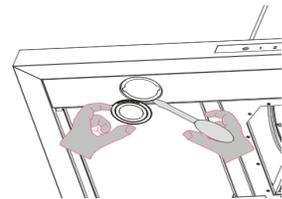

Fig. 9.1
- Push out the light assembly using a small straight screwdriver as illustrated in (Fig. 9.1).